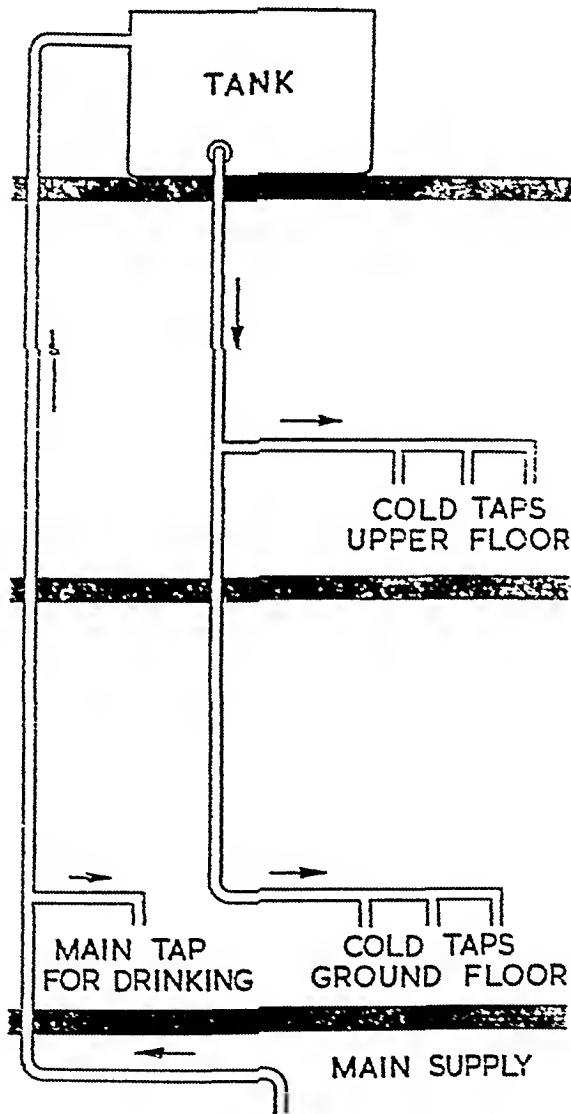

Fig. 31. Typical cold-water system
Cold-water System: This should be considered as two separate sections; think of the cold water as (A) the service from the company's water main to the storage tank, which is usually installed at the top of the house, and (B) the means by which the water is piped from the tank to the various points of usage in the house. A typical system of supply from the main to a house storage tank is shown in the illustration, *Fig. 31*. The main water pipe runs underground from the company's main to a point under the house. It is then brought up through the floor into the house, and is then taken straight up through the structure into the storage tank. If you find the spot where the pipe enters the house, usually in the kitchen, it is easily traced up through the upper floors to the storage tank. This is a rectangular galvanized container, usually positioned above the ceiling joists of the upper rooms in the loft space under the roof.
Replacing a Ball-valve Washer: Ball valves are used to control the supply of water to the storage tank (*Fig. 31*), and are used in every flushing cistern. Like other valves and taps, ball valves are fitted with washers and as these become worn the valve will leak, causing water to enter the tank, although the arm lever is raised to its highest level and the valve is closed. If the valve leaks it will be necessary